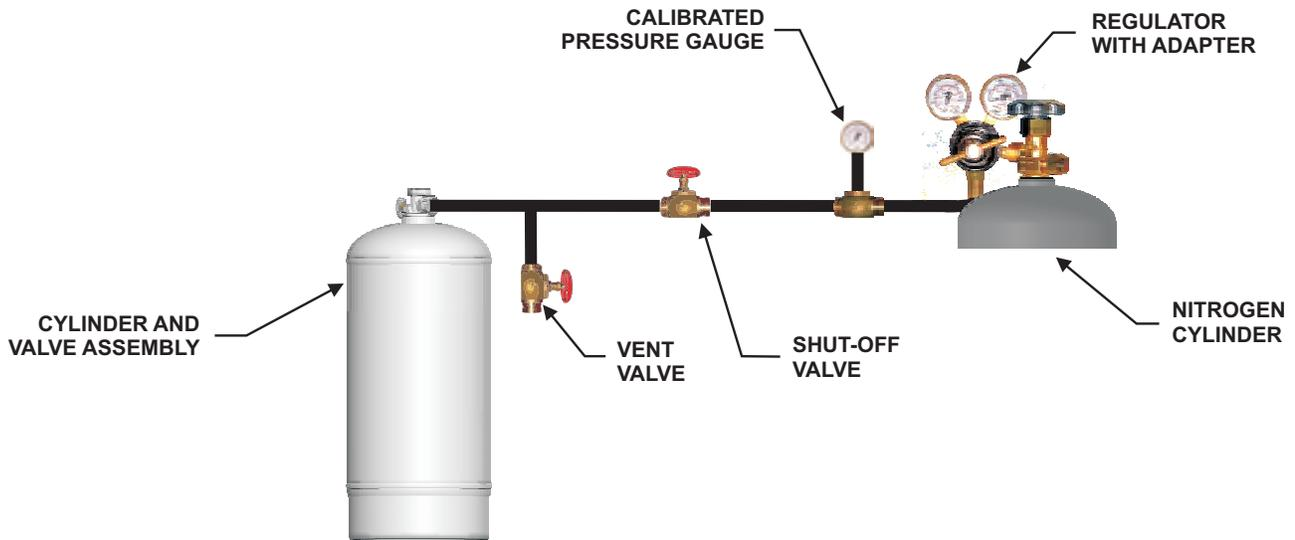

Figure 5-32. Recharge Hookup
**Note:** Do not rely on the pressure regulator or the cylinder pressure gauge to determine the container pressure. Refer to Figure 5-32 for a suggested recharging arrangement.